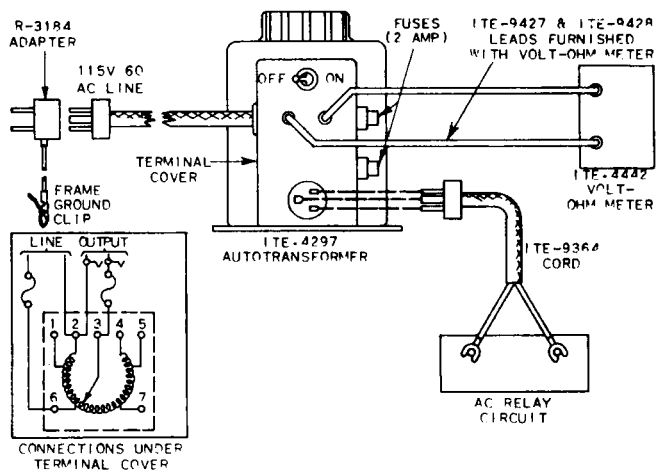

FIG. 12 SCHEMATIC SHOWING USE OF ITE-4297 (PAR. 13.4)
13.41 Prepare a test circuit using an ITE-4442 volt-ohmmeter and ITE-4297 continuously tapped auto-transformer as shown in Figure 12. This circuit cannot be used for testing relays which draw more than 2 amperes at 130 volts and below, or more than 1 ampere at 230 volts.